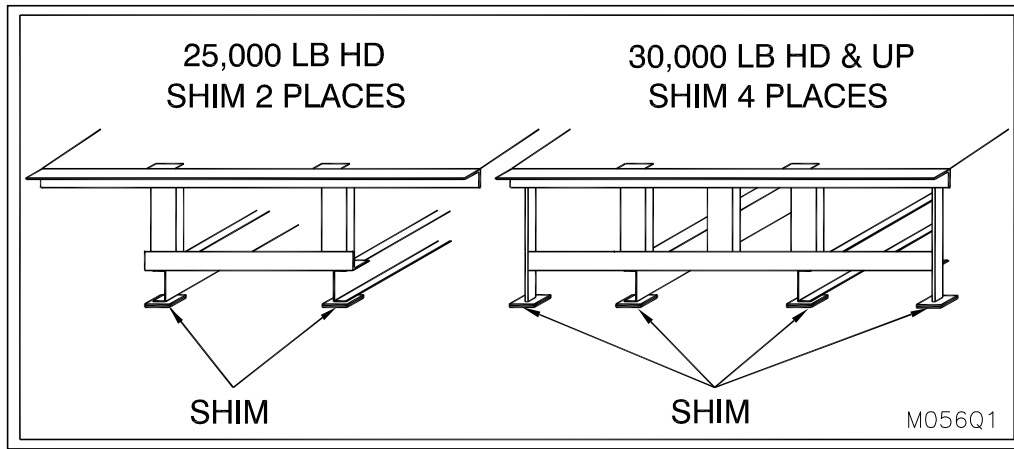

Figure 12: Hydraulic Dock Rear Shims
1. ___ Place shims of minimum length and width of 3" by 4" and a minimum thickness of 14 gauge under rear frame until top rear of dock leveler is flush with rear curb angle. (See "Figure 12: Hydraulic Dock Rear Shims" on page 12) Tack weld into position.